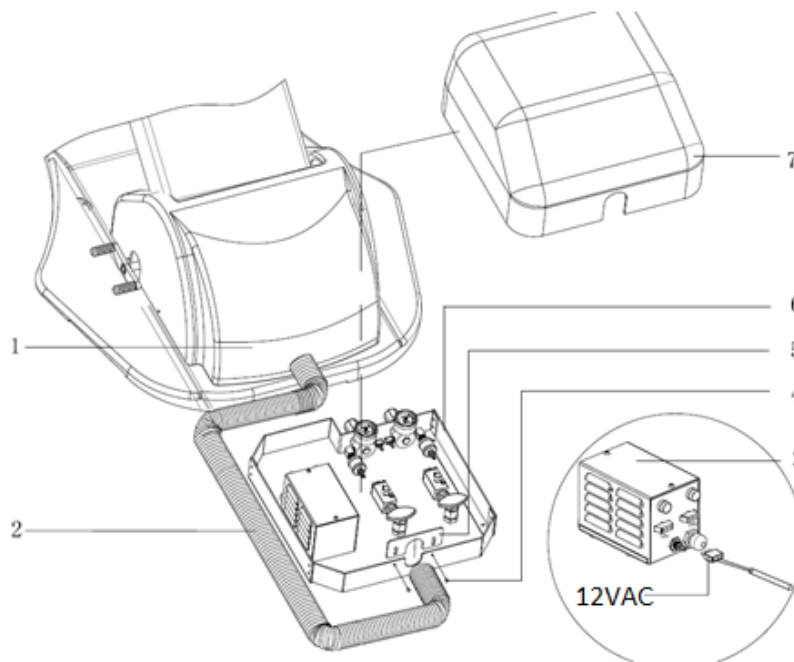

Figure 16. Contoured utility center Installation
1. Remove the upper cover of the contoured utility center ⑦ from the base ⑥.
6. Install the 2" corrugated tubing ② to the contoured utility center with the corrugated tubing clip ⑤ and two flat head screws ④.
7. Install the voltage transformer ③ in the specified location shown on Figure 16.